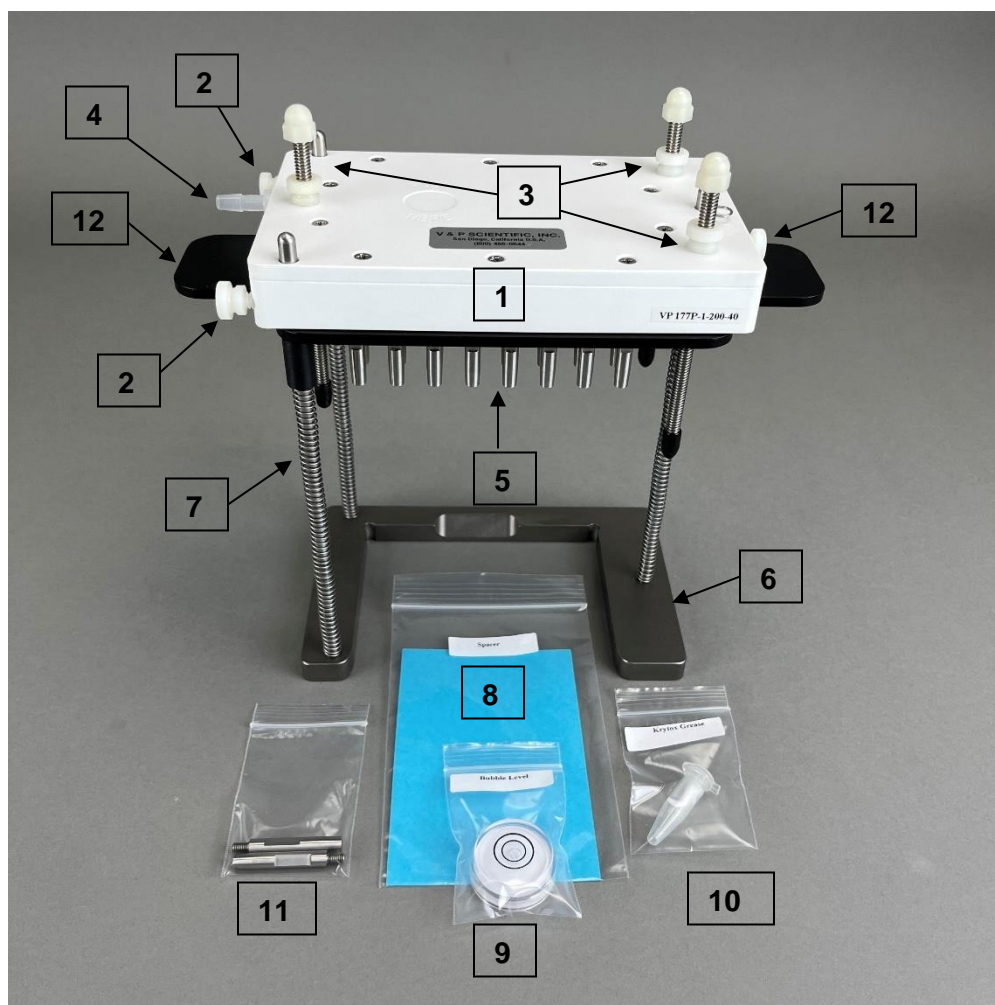
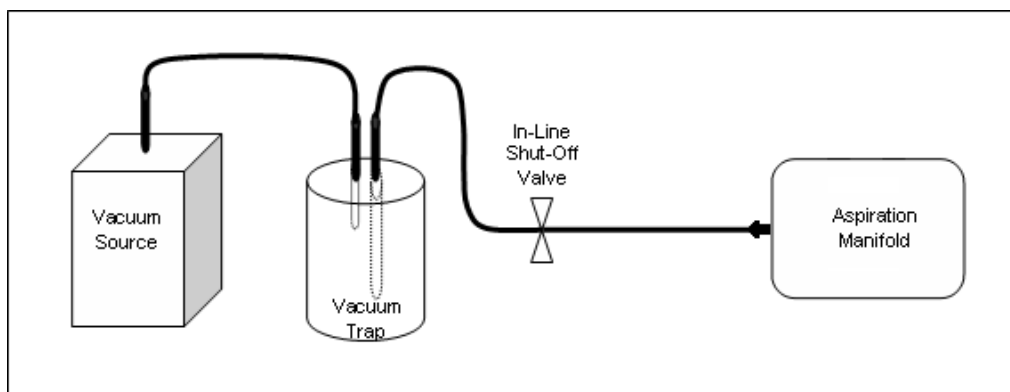

Figure 1. Parts of the VP 177A-1 Aspirating Manifold
Figure 2. Manifold Setup: Connection to Vacuum Source
1. Attach one end of a vacuum hose to the nozzle Outlet Fitting (4) on the Manifold (Figure 1) and the other end to a shut-off valve (Figure 2). Place a vacuum trap to collect aspirated liquid between the shut-off valve and the vacuum source. This vacuum source can be a pump or a central or "house" vacuum system.